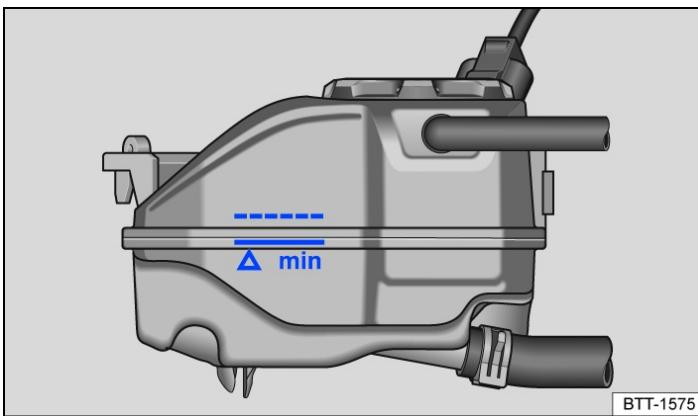

Fig. 2 In the engine compartment: markings on the coolant expansion tank (illustration).
1. When the engine is cold, check the coolant level at the side markings of the coolant expansion tank → Fig. 2. The coolant level must be between the marks.
3. Do not add coolant if there is no longer any coolant visible in the coolant expansion tank → ①.
After adding the coolant, the coolant level must be between the markings on the coolant expansion tank → Fig. 2.